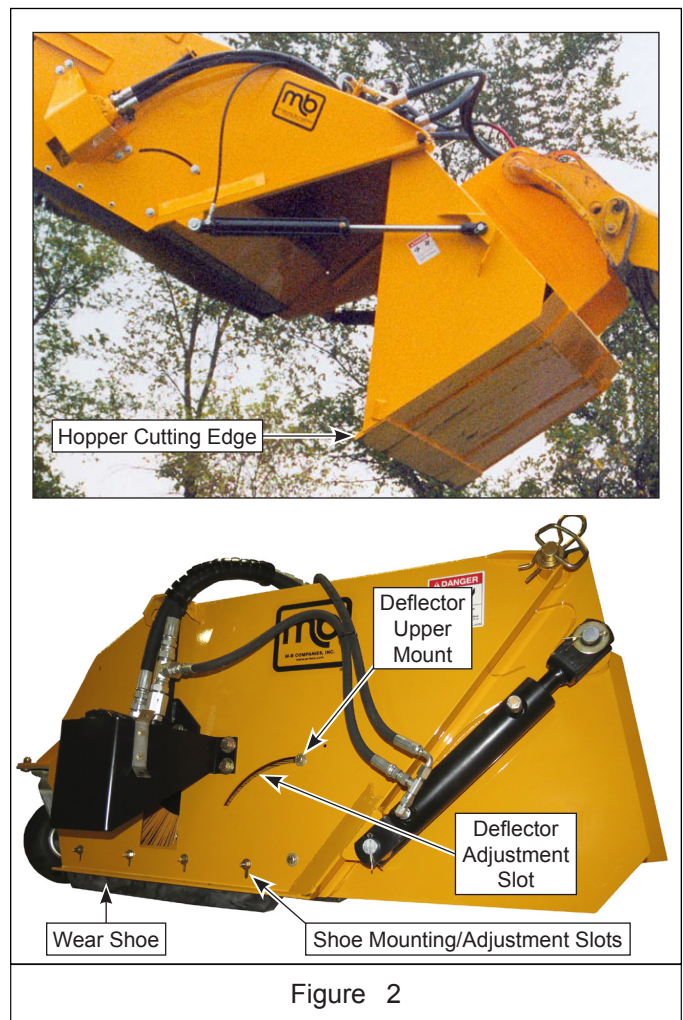

Figure 2
4. Adjust the height of the broom housing wear shoes until the broom is level side-to-side. Loosen the (4) 5/16"-18 lock nuts on each wear shoe to adjust it in the vertical slots in the broom housing. See Figure 2.